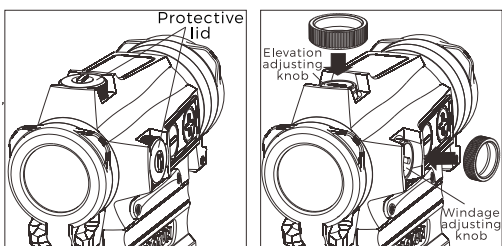

Fig6
1. On top of sight is the elevation adjusting turret, windage adjusting turret is on the right side (see Fig6). The sight
2. The built in screw driver tool on the protective cap can be used for zeroing adjustment (see Fig6). See label inside cap.